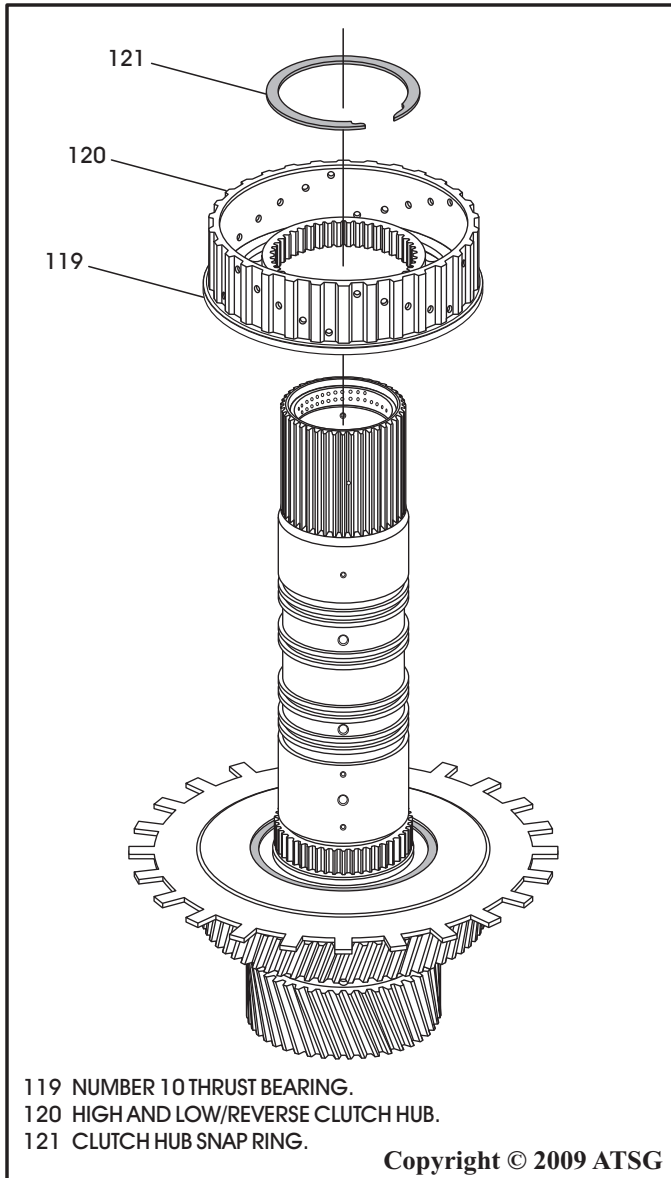

Figure 121
13. Install the high and low/reverse clutch hub with the number 10 thrust bearing as an assembly, as shown in Figure 121, engaging the splines on the sun gear shaft until fully seated.
14. Install the retaining snap ring and ensure it is fully seated, as shown in Figure 121 and 123.